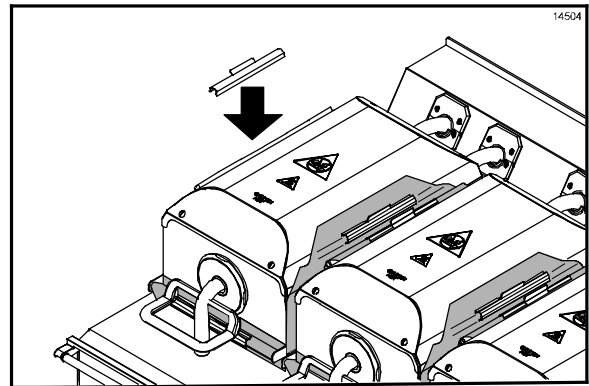

Figure 11
4. Carefully rotate the release sheet side flaps over the cover rails and secure the sheet with locking clips. (See Figure 11.)